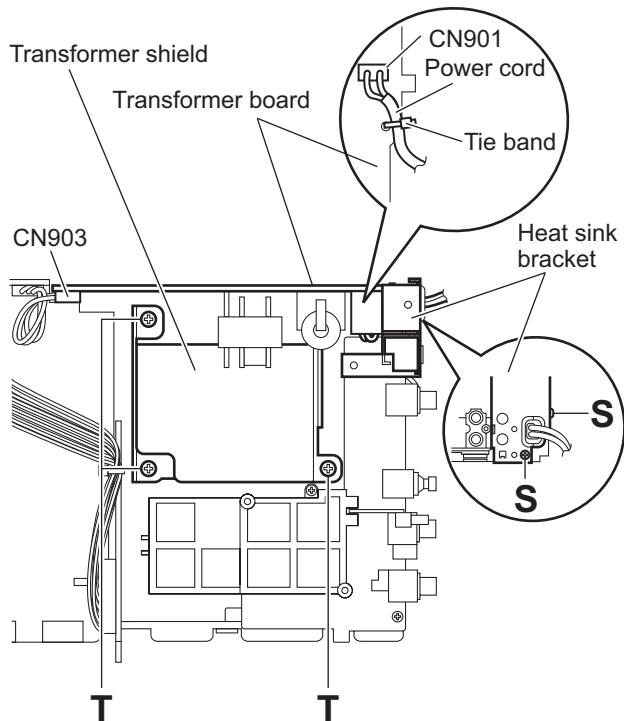

Fig.15
3.1.11 Removing the transformer board (See Fig.15)